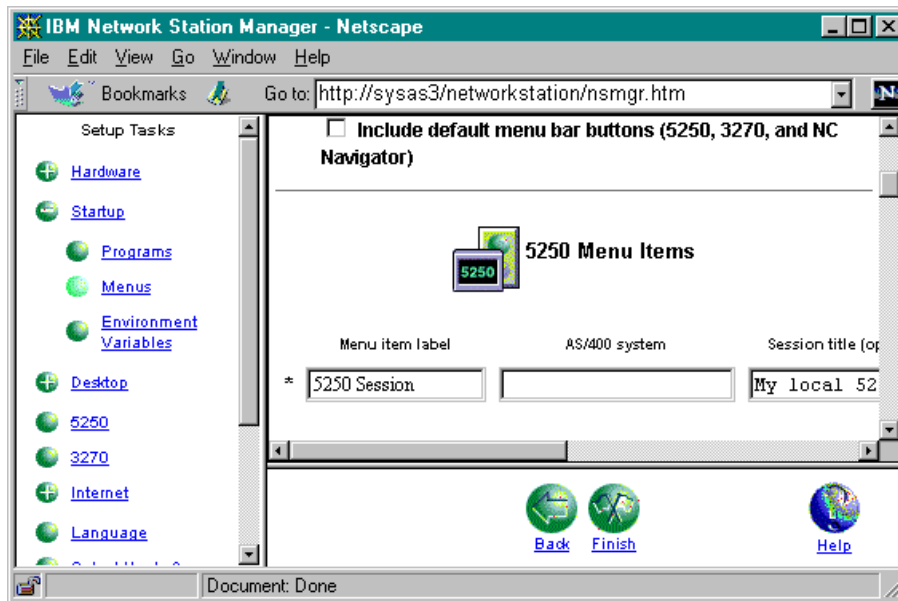
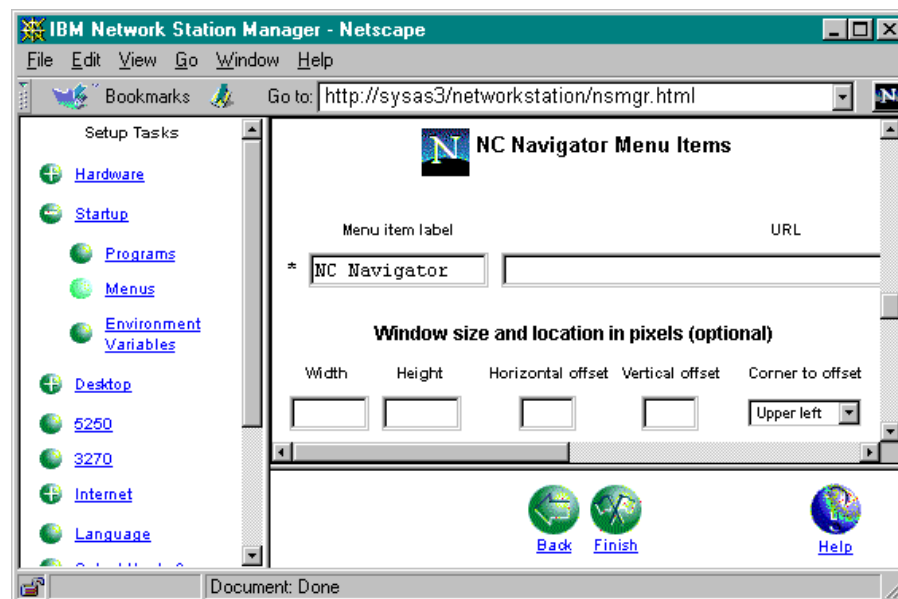

Figure 127. Customize System Default Menu Bar Buttons
Figure 128. Add Custom NC Navigator Button to System Default Menu Bar
1. As shown in Figure 127 on page 220, use IBM Network Station Manager to omit the 3270 button from the System Defaults Menu Setup Task by removing the check mark for *Include default menu bar buttons (5250, 3270 and NC Navigator)* and then, adding a 5250 Session button again. Complete the process by adding an NC Navigator button as shown in Figure 128 on page 220.